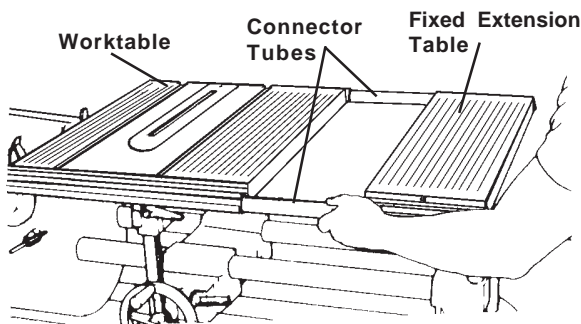

Figure 1
2. Check the alignment of the worktable and the fixed extension table. Move the worktable within 12" of the extension table. Insert the connector tubes (2) into the worktable extrusions. Raise the extension table and fit the connector tubes into the extension table extrusions, see Figure 1. If they do not fit easily, the extension table needs to be aligned. (Refer to the **Alignment** section of the Mark V Owner's Manual.)